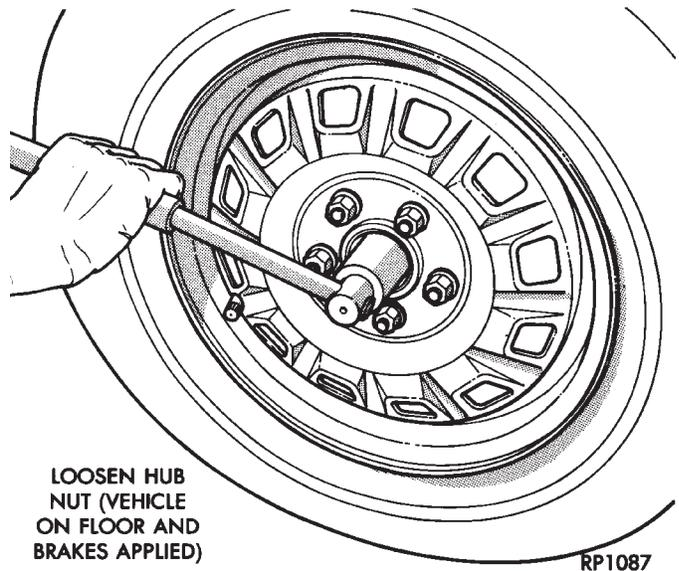

Fig. 4 Loosen Hub Nut
(2) Loosen hub nut while the vehicle is on the floor with the brakes applied (Fig. 4). **The hub and driveshaft are splined together through the knuckle (bearing assembly) and retained by the hub nut.**